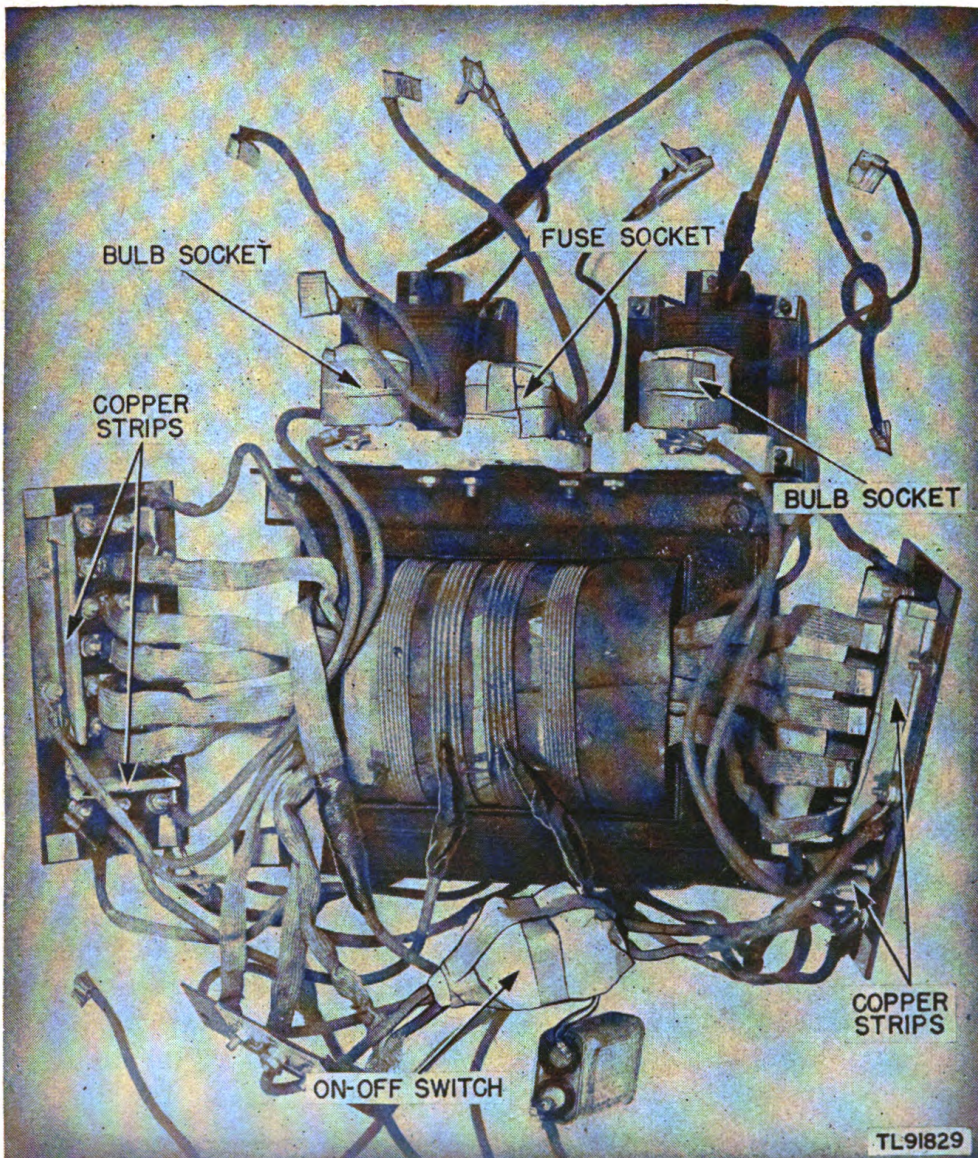

Figure 17. Rectifier RA-36-(1) and rectifier 6RB6B17, masking transformer assembly.
the same time, straighten out the lead wires and turn the phenolic strips over. Do not disconnect any of the wires. (See fig. 17.)
*d. MASKING.* (fig. 17). (1) Mold paper to cover the ON-OFF control switch, and fasten the paper in place with masking tape.
(2) Mold paper to cover the fuse sockets, and fasten the paper in place with masking tape.
(3) Mold paper to cover the rectifier bulb sockets, and fasten paper in place with masking tape.
(4) Mask the two long pairs and the one short pair of copper strips, found in the back of each of the two phenolic strips containing the contacts for the charging-rate-adjustment plugs, with masking tape. (Cover only those portions of the copper strips which make contact with the plugs.)
(5) Mask all mounting holes in the case, chassis, and plug boards, exposed through removal of the component, with masking tape.
(6) Cover the terminal lugs of the four meter leads and all leads disconnected in one or more places, where disconnected, with masking tape.
(7) Cover the two clips disconnected from the rectifier bulbs with masking tape.
*f. VARNISHING.* (1) Apply three coats of moistureproofing and fungiproofing varnish (Lacquer, Fungus-resistant, spec. No. 71-2202 (stock No. 6G1005.3), or equal). Allow each coat to dry for 15 or 20 minutes at the temperature specified in *e* above, before applying the next coat.
(2) Apply varnish immediately after the equipment is dried. If varnish is not applied immediately, moisture condenses on the equipment. Varnish applied over the moisture peels off readily after the varnish has dried.
(3) Spray the case, panels, base, chassis, and component parts of the equipment, except as noted.
(4) Varnish the transformers and internal reactors by brush. Apply as thick a coating as possible to the coils. Allow the varnish to penetrate into all openings between layers of the coils. Apply a thick coating of varnish to all laminations. Make certain that all areas and openings are completely covered. (See fig. 17.)
(5) Brush coat all points missed by the spray on parts mentioned in (3) above.
(6) Remove paper mask from the ON-OFF control switch, and brush coat the plastic parts of the switch. (See fig. 17.)
(7) Do not spray the meters. Brush coat the backplate and the joint between the backplate and the meter shell of each meter. In the same manner, paint the heads of all retaining screws and the joints between the glass and the meter shell. Make certain that these joints are well